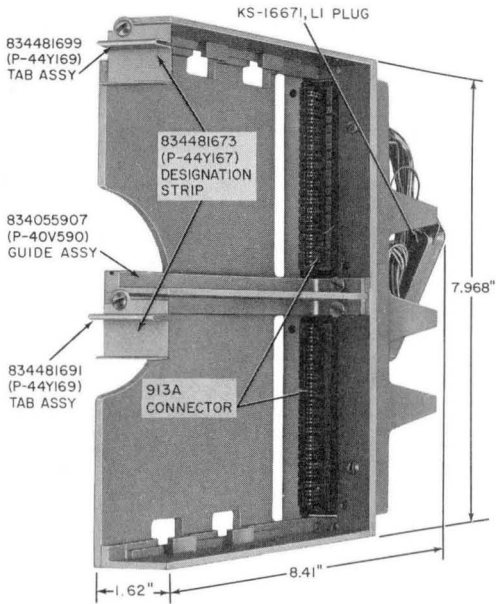

Fig. 1—69B Apparatus Mounting (With Guide Assembly)
- Bracket, Mounting, 99A (MD) or B
- (b) The 69B apparatus mounting consists of two 913A (20-pin) connectors wired to a KS-16671, List 1 plug mounted on the back of the apparatus mounting (Fig. 1).